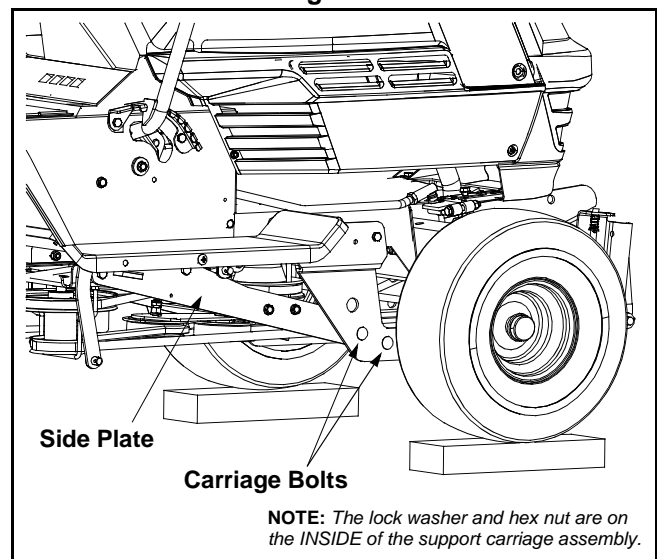

Figure 9
5. With the undercarriage's side plates positioned to the **inside** of the support carriage mounted earlier, reinsert the carriage bolts removed in step 1 through aligning holes in both the undercarriage assembly and support carriage assembly. See Figure 9.